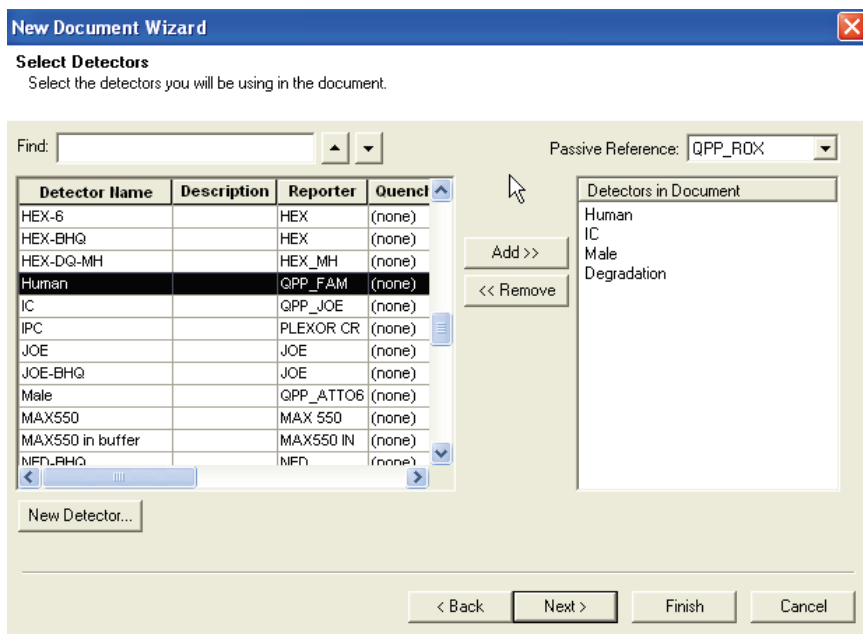

Figure 35. Selecting the detectors.
9. Add the detectors QPP_FAM, QPP_JOE, QPP_ATTO550 and QPP_ATTO647N to the document and set QPP_ROX as passive reference. Click **Next** to continue (Figure 35, next page).